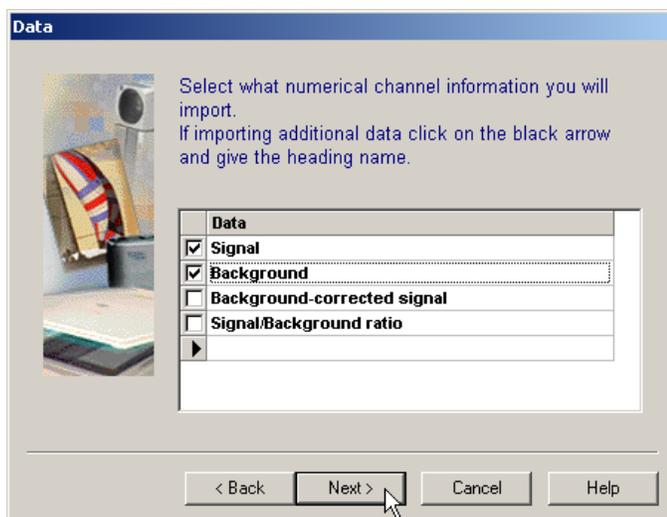

Figure 10 Data (Enter the data you will import) Dialog Box
4. The **Data** dialog box opens (Figure 10):